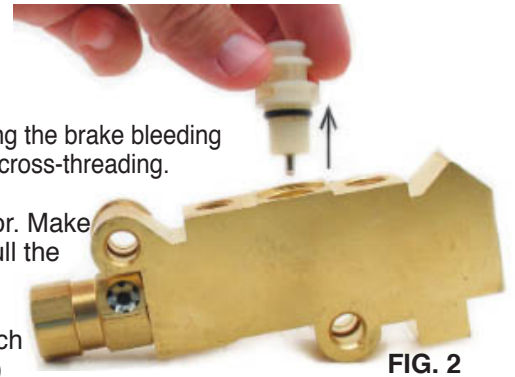

FIG. 2
2. Remove the brake pressure sensor warning light switch. You may need to use a wrench to loosen it. Once loose you should be able to easily unscrew it with your fingers. (Fig 2.)